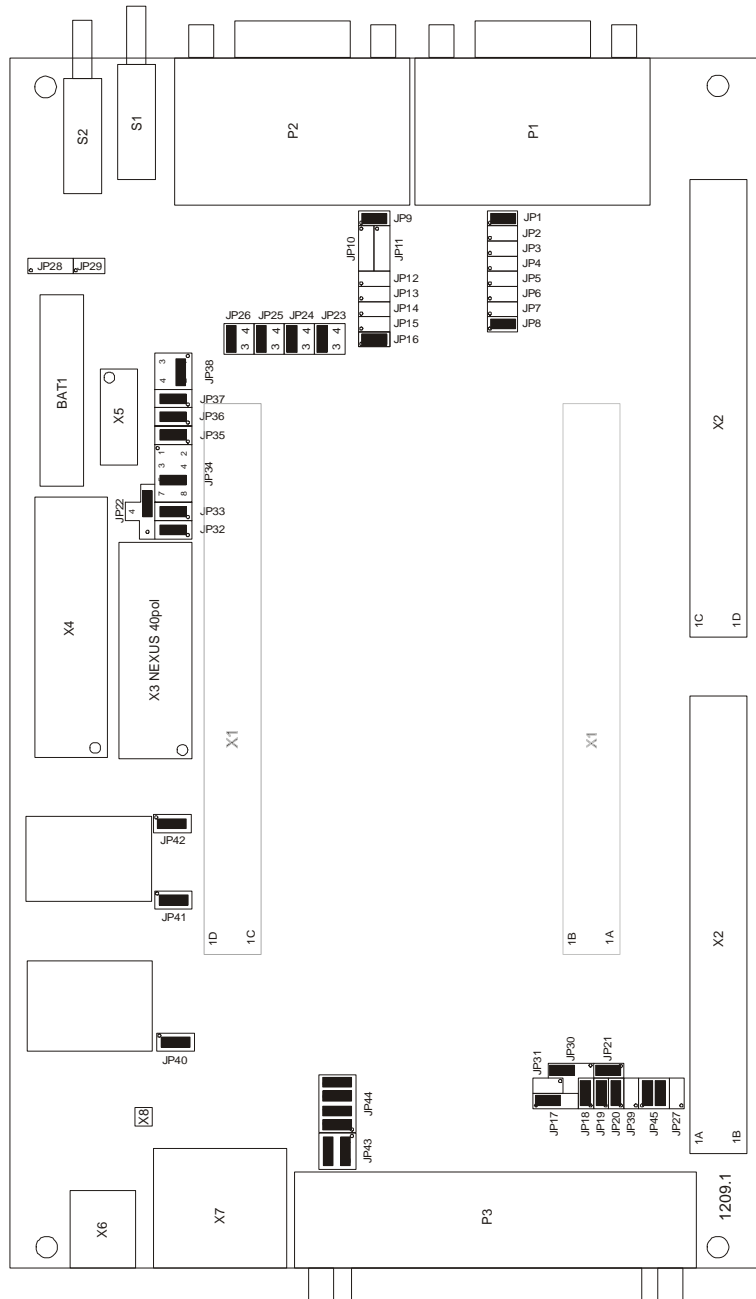

Figure 3: Default Jumper Settings of the phyCORE Development Board PCM-991 with phyCORE-MPC565
- Make sure Jumper JP17 on the phyCORE-MPC565 Development Board is closed at default position 1+2 (refer to Figure 3).